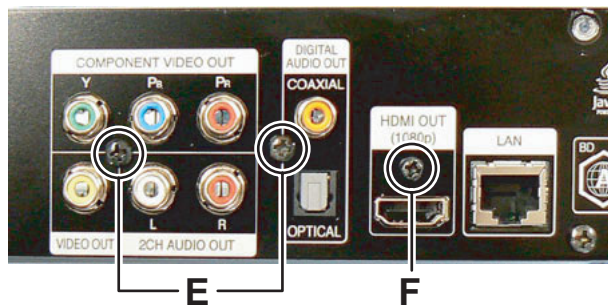

Fig.8
3.4 Removing the Main board (See Fig.8, 9)
- (1) Remove the two screws **E** attaching the RCA jacks. (See Fig.8)
- (2) Remove the one screw **F** attaching the HDMI jack. (See Fig.8)